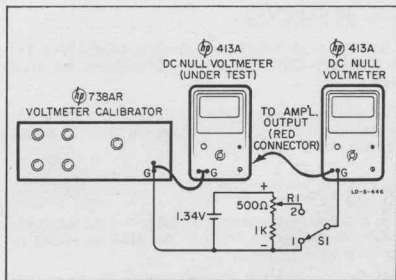

Figure 5-8. Amplifier Calibration Test Setup
a. Connect the accuracy indicator and the voltmeter calibrator to the 413A under test as shown in figure 5-8.
- b. Set S1 in figure 5-8 to position 1.
- f. Set S1 in figure 5-8 to position 2 and set voltmeter calibrator function switch to DC+.
j. Reverse the battery connection in the test setup in figure 5-8, and repeat step i using negative test voltages. If necessary, standardize the accuracy indicator for negative voltages. (Follow paragraph 5-37, steps a through i with battery connections reversed.)